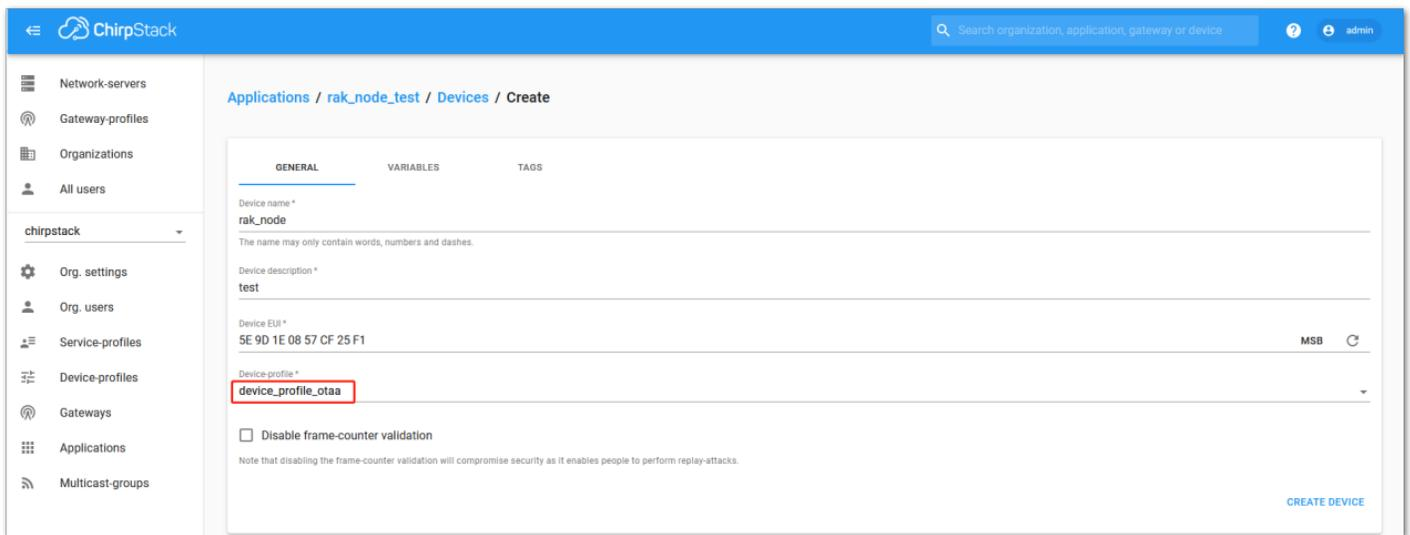

Figure 79: Chirpstack OTAA activation
1. If you have selected “**DeviceProfile_OTAA**”, as shown in **Figure 79**, after the device is created, an Application Key must be also created for this device.